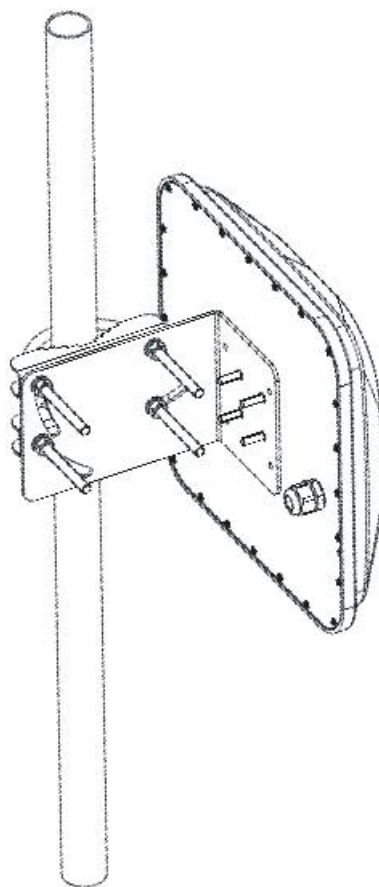

Figure 3-4 Vertical pole installation
(2) Using two U-bolts and two toothed installation bracket to fix the reader on vertical rod through the L-bracket, refer to Figure 3-4.